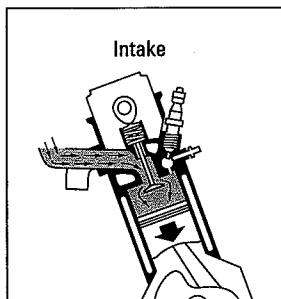

Figure 7-7:
- | ✓ **Stroke 1 — Intake stroke (see Figure 7-7):** The piston descends, the intake valve opens, and air is drawn into the cylinder.